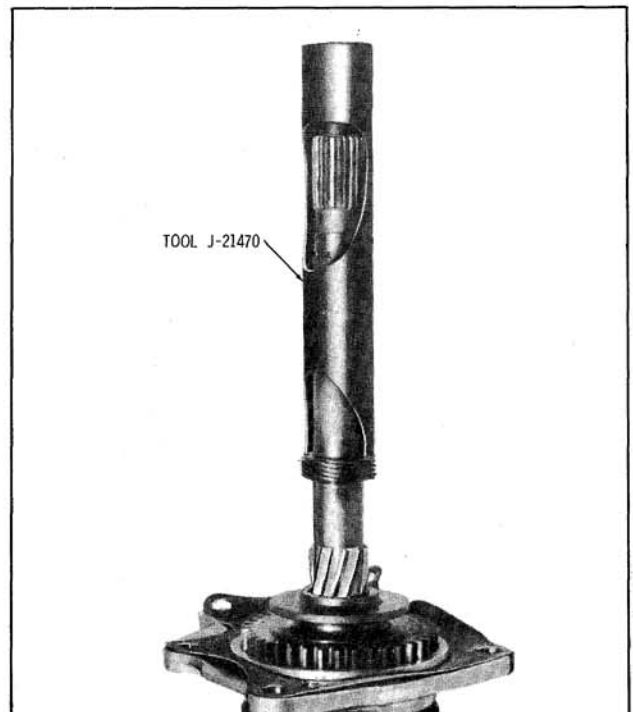

Fig. 6-519 Installing Speedometer Drive Gear
1. With transmission in a horizontal position, position speedometer driving gear on output shaft. Place transmission in "Park" range. Using Tool J-21470 drive speedometer driving gear onto shaft. (Fig. 6-519)